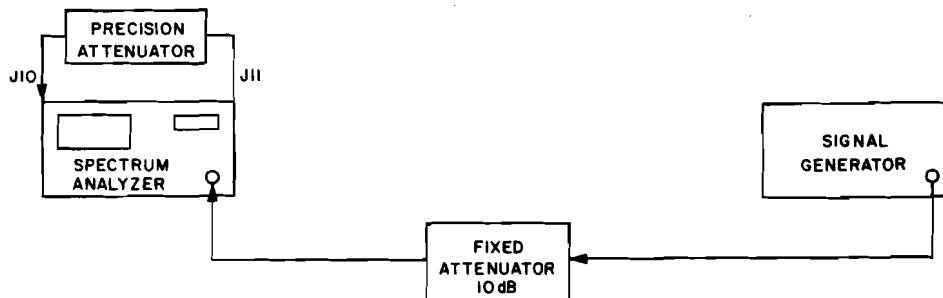

Figure 4-1. RF Attenuator Test Set-Up
1. Connect the test set-up as shown in Figure 4-1. The precision attenuator is placed between the 21.4 MHz IN and OUT connectors, J10 and J11 respectively on the rear panel. Add a fixed 10 dB attenuator between the signal generator and RF input of spectrum analyzer to minimize